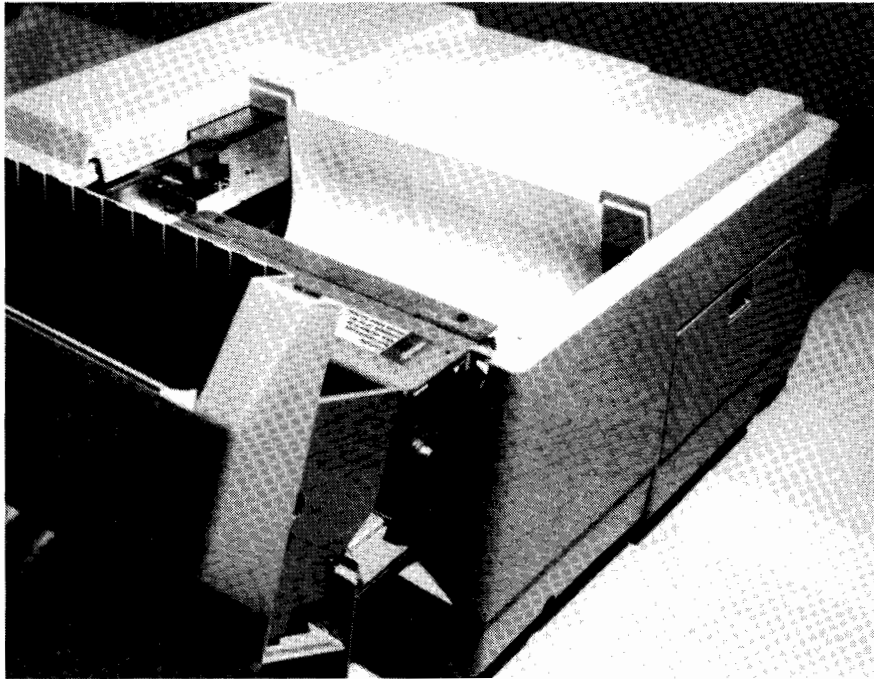

Figure 4-12. Covering Upper Cover With Paper
- d. Lay a sheet of paper on the upper cover to catch any toner which may fall when replacing the fuser cleaning pad assembly (see figure 4-12).